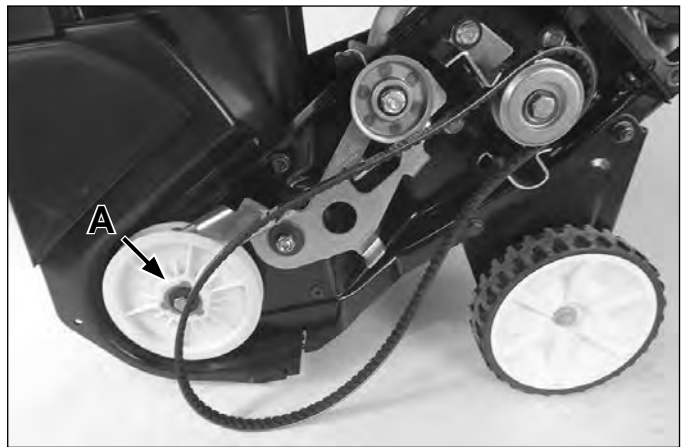

Fig. 013
9. Re-install the rotor pulley and drive belt. Torque rotor pulley bolt to 8 ft-lbs (11 Nm) (Fig. 013).